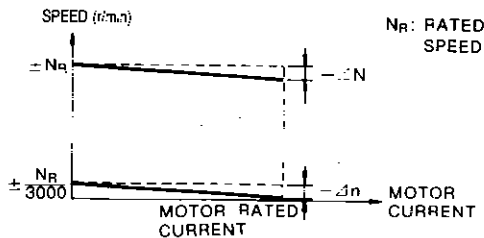

Fig. 10.2 Speed Regulation
- (2) Speed Regulation (Fig. 10.2)